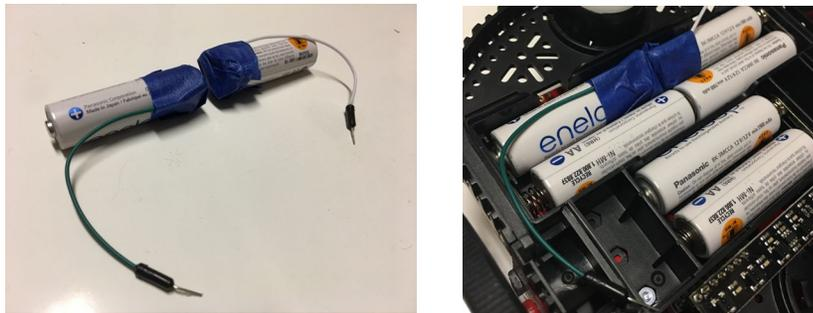

Figure 3. One mechanism to measure current.
There are two approaches to measuring motor **current (I)**. One approach is to remove the batteries and connect a bench supply (which allows you to set the voltage to 7.2V and measure the current) to power the robot. The second approach is to place a current meter in the loop between the batteries and the robot. For example, you can tape one wire to the + side of a battery and tape another wire to the - side of a second battery, see Figure 3. You then place these taped ends together into the battery compartment of the TI-RSLK chassis.